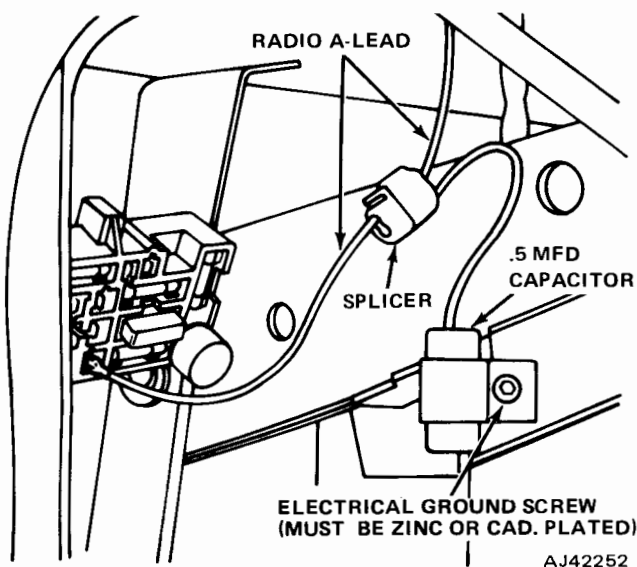

Fig. 3-99 Wiring Harness Noise Suppression
- (1) Relocate wiring away from ignition wires.
- (2) Install 0.5 mfd capacitors on each fuse panel lead. Be sure capacitor is grounded (fig. 3-99).
- (3) Relocate wiring away from tachometer and ammeter wiring.
- (4) Remove loops from harness wires.